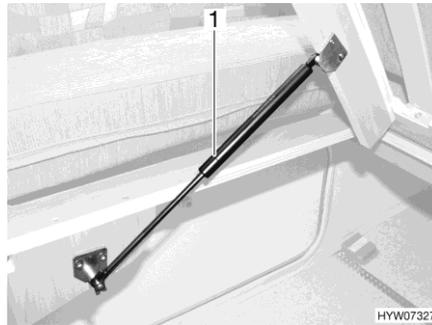

Fig. 129 Fixed bed
- Lift slatted frame. The gas-pressure springs (Fig. 129,1) hold the slatted frame open.